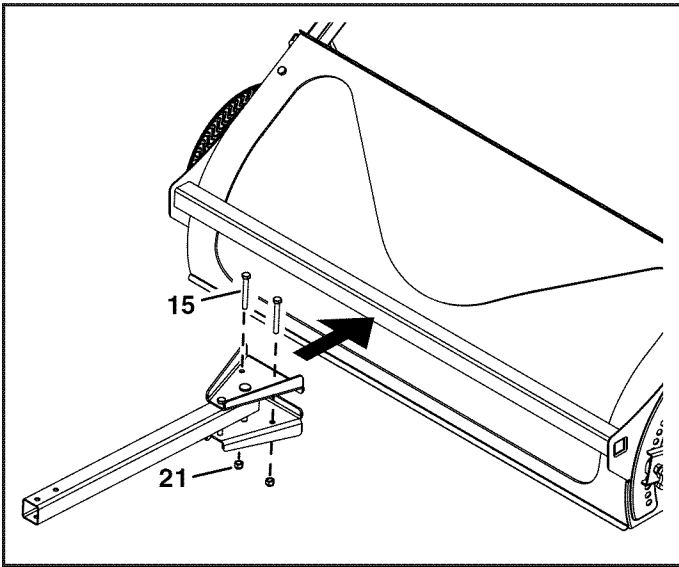

FIGURE 5
STEP 5: (SEE FIGURE 5)
- Attach the drawbar and brackets to the sweeper using two 5/16" x 2-12" hex bolts (15) and two 5/16" nylock nuts (21). Tighten all three bolts installed in the brackets, then loosen the front bolt by 1/4 to 1/2 turn.